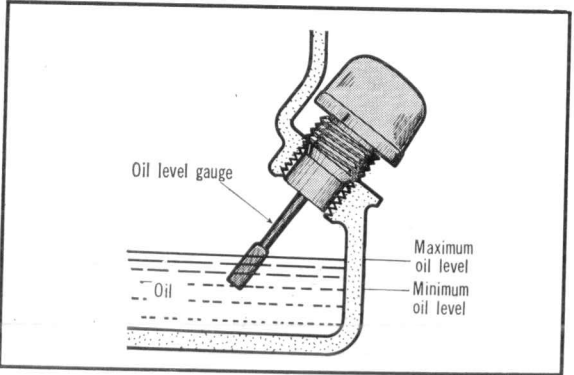

Figure 6-30. Oil level gauge
- b. The proper oil level is indicated by the oil between the level markers on the gauge when checked without screwing the cap down. (Fig. 6-30)